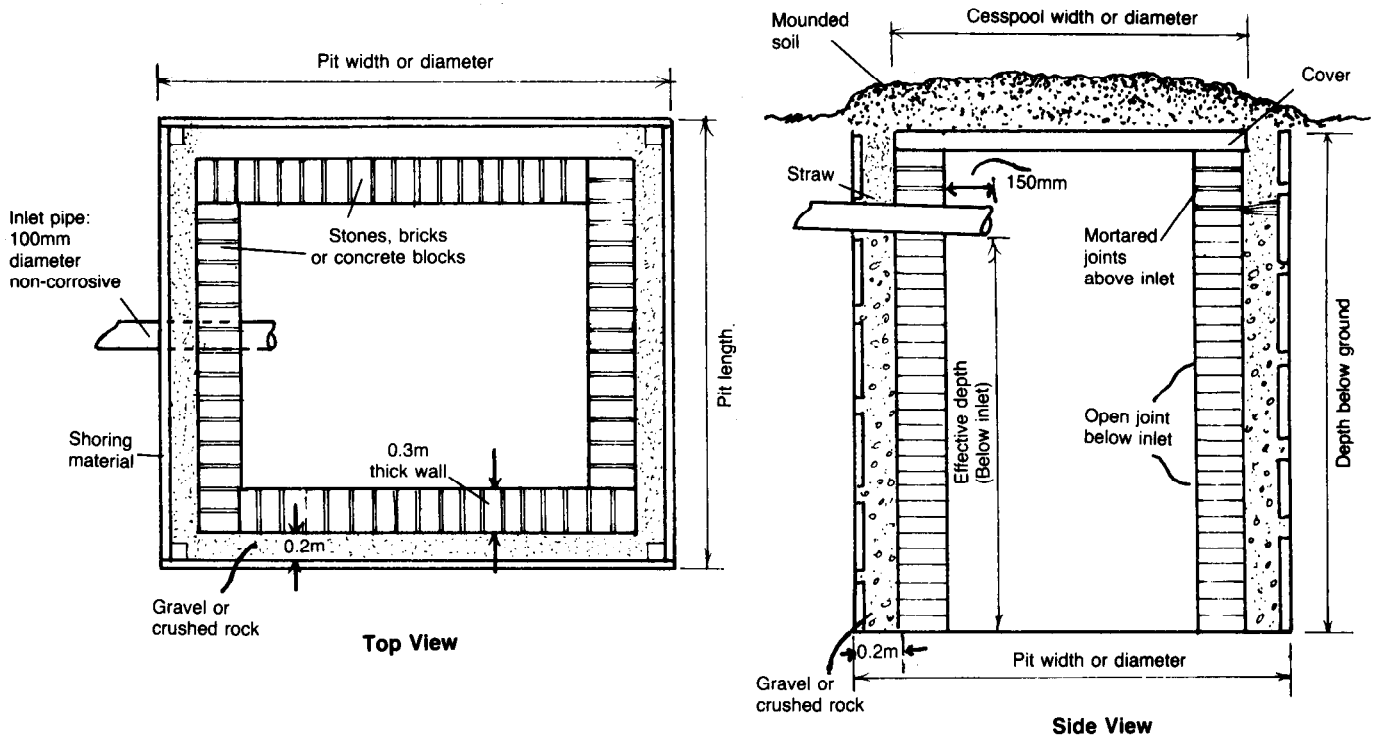

Figure 2. Cesspool
2. Plan views similar to Figure 2 showing length, width, depth, and other design criteria,